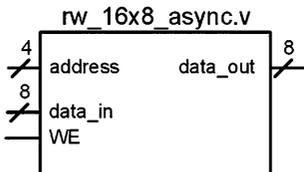

Fig. 10.4
10.3.1 Design a Verilog model for the 16×8 , asynchronous, read/write memory system shown in Fig. 10.4. Create a test bench to simulate your model. Your test bench should first read from all of the address locations to verify they are uninitialized. Next, your test bench should write unique information to each of the address locations. Finally, your test bench should read from each address location to verify that the information that was written was stored and can be successfully retrieved.